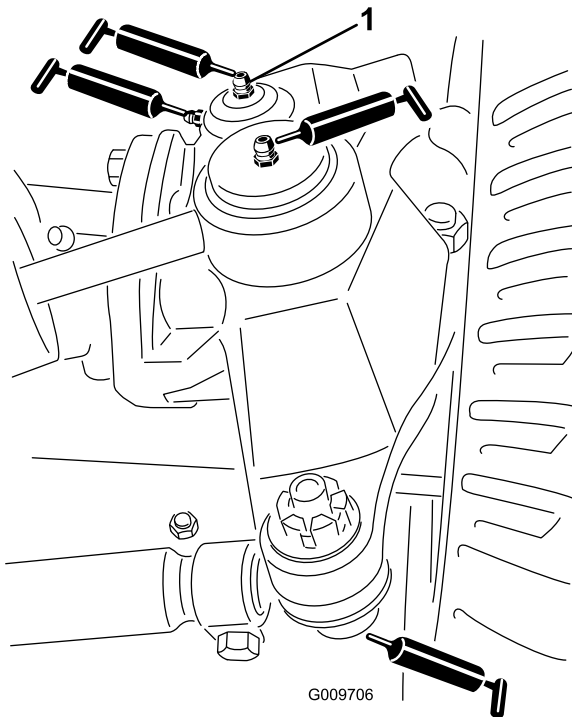

Figure 76
- Steering-cylinder ball joints (2) as shown in Figure 76
- Tie-rod ball joints (2) as shown in Figure 76
- Kingpin bushings (2) as shown in Figure 76